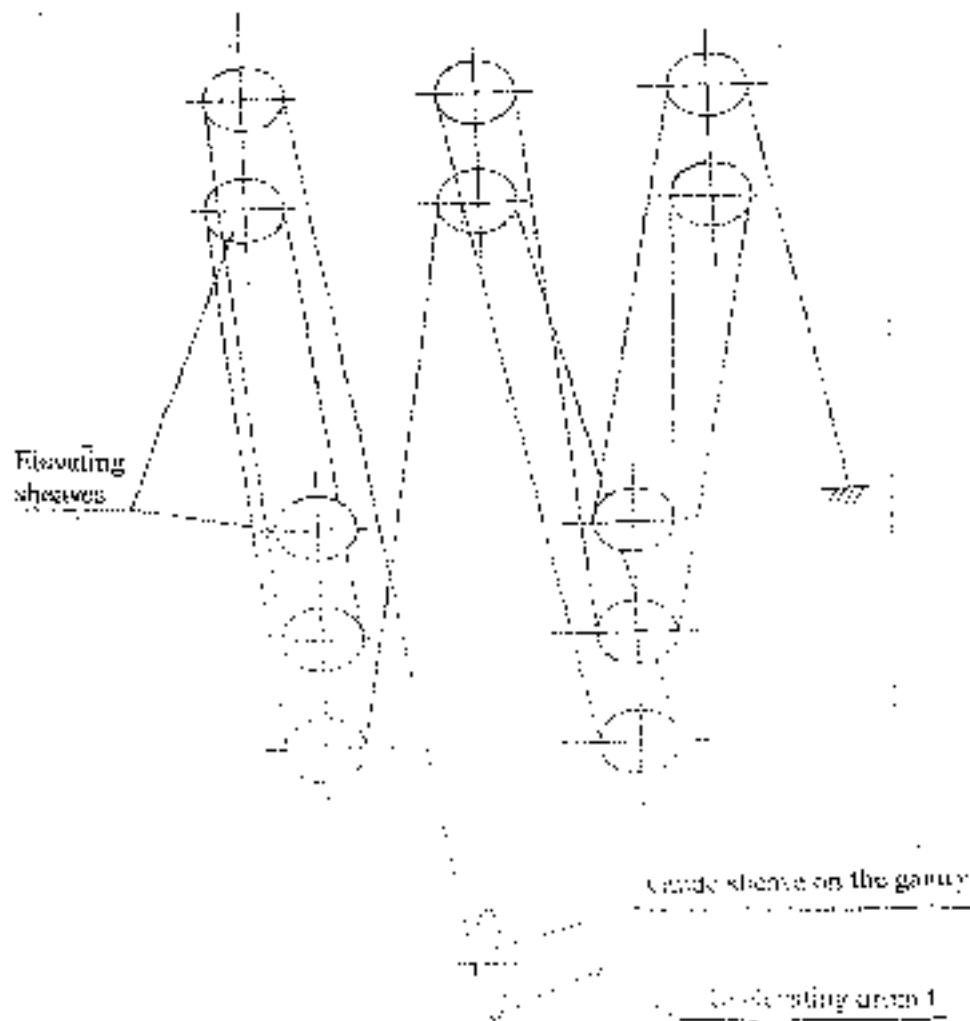

Fig. 11
4.2 Reeve Elevating Rope (refer to Fig. 11)